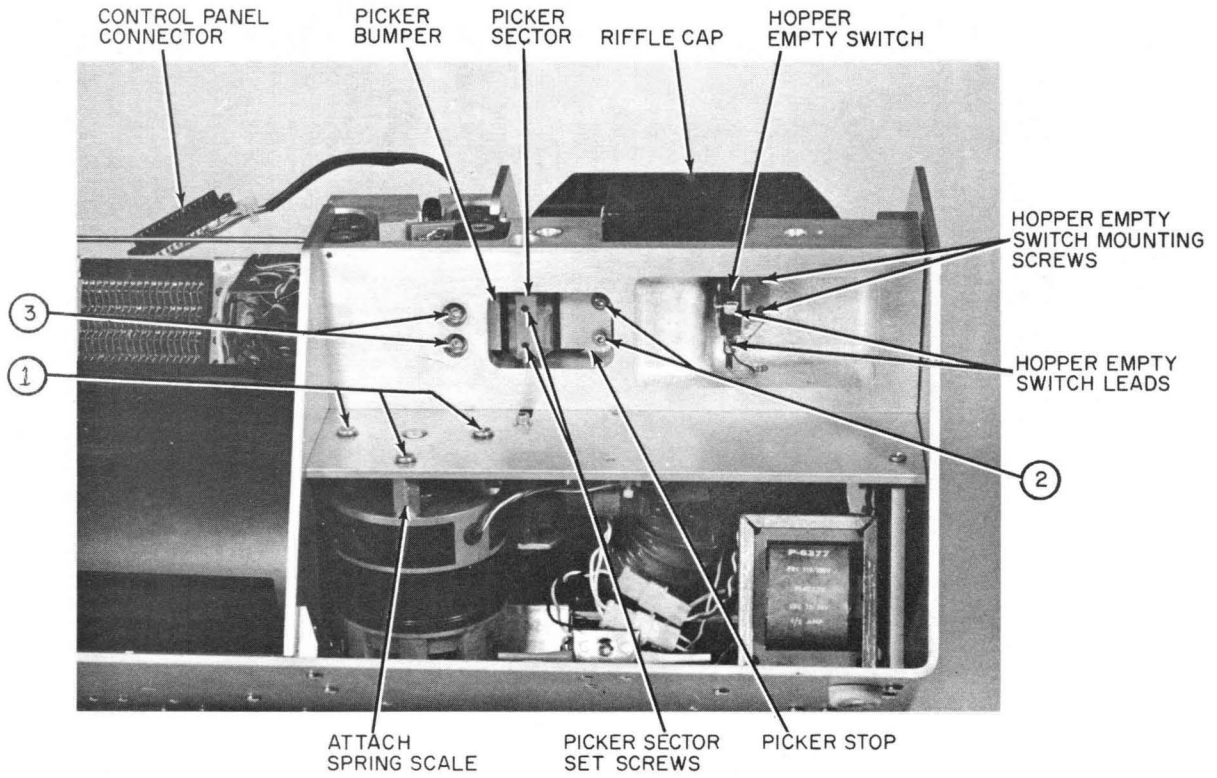

Figure 6-10. Picker Sector Adjustment, Front View
- b. If height of picker sector requires adjustment, use a 5/64 Allen wrench and LOOSEN set screws in back of picker sector, figure 6-10.
- j. Using a 5/64 Allen wrench, LOOSEN two picker stop screws ②, figure 6-10.
- s. Using a 9/64 Allen wrench, LOOSEN two picker bumper socket head screws, ③, figure 6-10